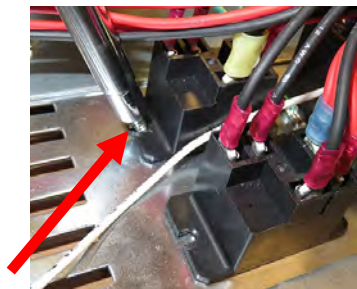

Figure 11
14. Using a 1/4" nut driver, remove the four (4) screws attaching the relays at the bottom of the basket lift enclosure (see Figure 11).